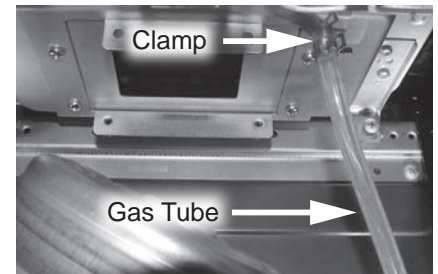

Figure 151 - Disconnecting clear gas tube
- 43** Locate the clear gas tube connected to the gas valve and primary heat exchanger assembly. Disconnect the clear gas tube from the primary heat exchanger assembly. See Figure 151.
**76** Locate the clear gas tube previously disconnected in **Step 43**. Connect the clear gas tube to the primary heat exchanger. See Figure 151.